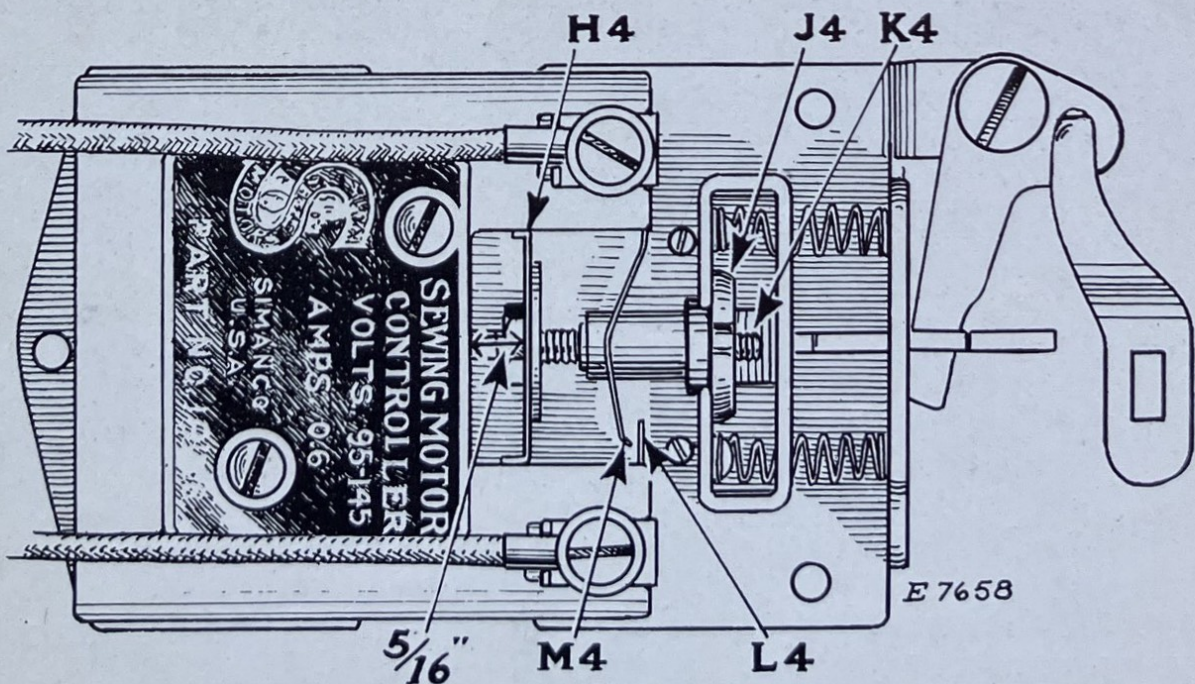

FIG. 19. EMERGENCY ADJUSTMENT OF CARBON KNEE CONTROLLER
1. With the knee lever in the "Off" position or at the extreme left, adjust the pull rod (K4, Fig. 19) by means of the insulated thumb nut (J4, Fig. 19) until the rear face of the thin metal cross slide (H4, Fig. 19) carried by the pull rod is, $\frac{5}{16}$ " from the flat face of the porcelain as shown in Fig. 19.
2. Move the knee lever to the extreme right or full speed position and make sure that the bronze contact strips (L4 and M4, Fig. 19) of the short circuiting device make positive contact with each other, thus cutting out all resistance.
3. If, with the knee lever at the extreme right, the short circuiting device does not make contact, bend the short bronze strip (L4, Fig. 19) slightly as required, but care should be taken to see that the pressure of the contact is not so great as to noticeably bend the bronze strip (M4, Fig. 19) near the point at which it is secured to the porcelain body. If this occurs, the short bronze strip should be bent slightly away from the long strip so that the short circuiting pressure is positive but not heavy.